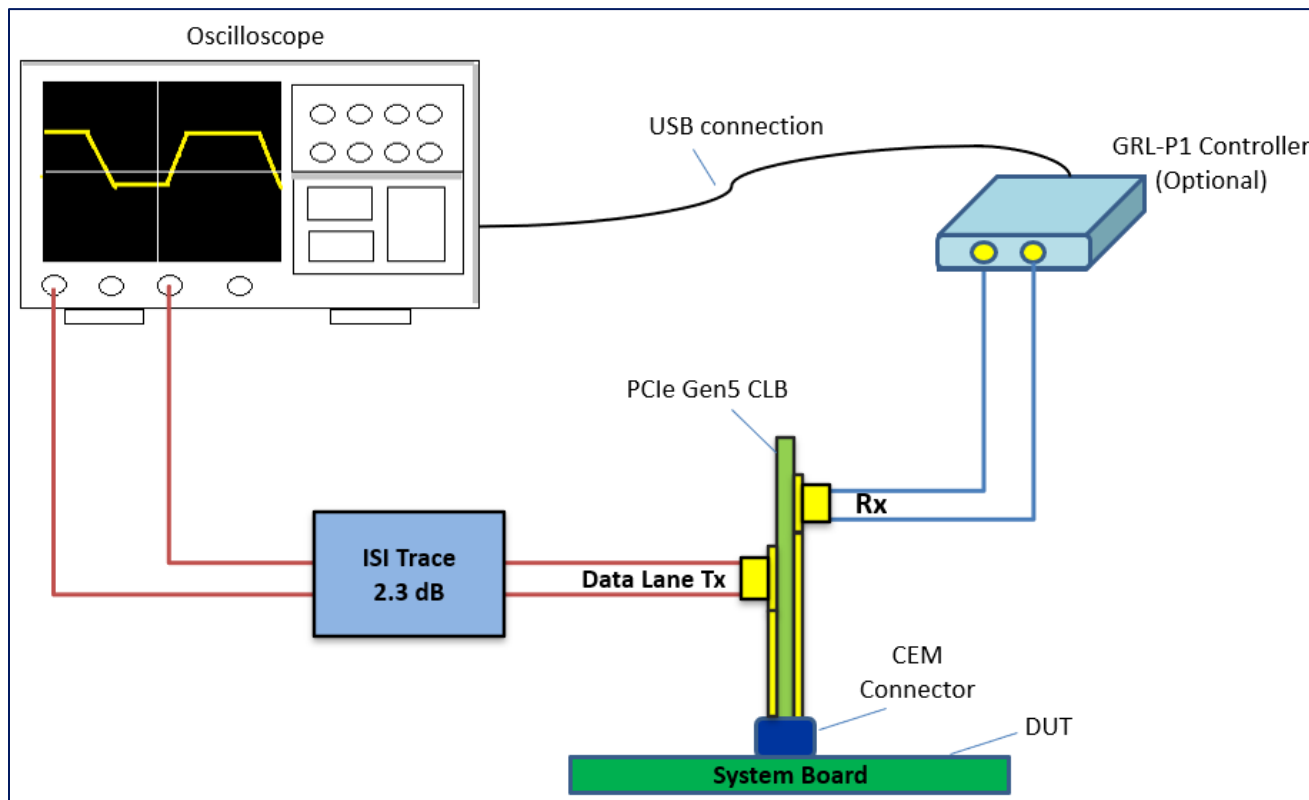

FIGURE 11. CONCEPTUAL PCIe GEN5 SYSTEM BOARD TX TEST SETUP DIAGRAM USING GRL-P1 (WITH ISI)
9. If using ISI, connect a 2.3 dB ISI in between the CLB Tx outputs and Scope channels (Figure 11 below).